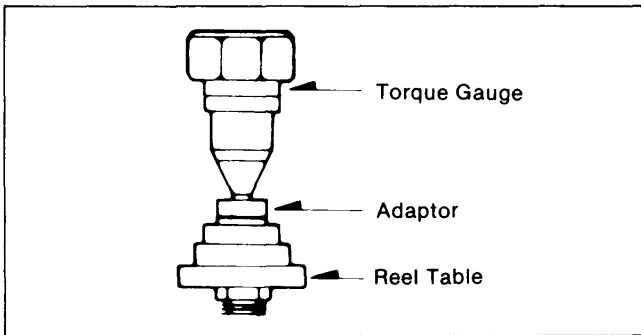

Figure M38 Measuring Method
3. Place the torque gauge on the reel table as shown in Figure M38. The weight of the gauge should not rest on the reel table.